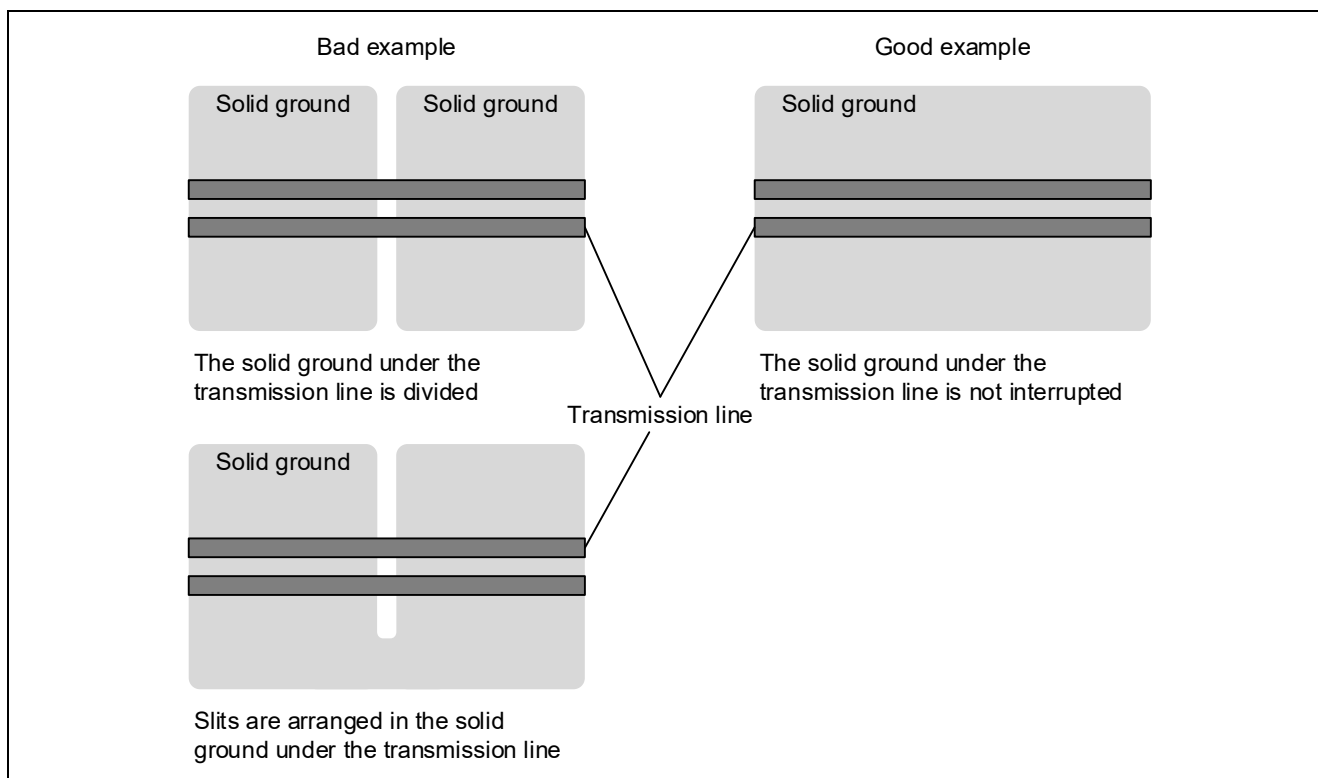

Figure 2.3 Example of solid ground on the lower layer of the transmission line
- The bottom layer of the transmission line should be a solid ground, and should not be divided by slits or the like. **Figure 2.3** shows an example of a solid ground under the transmission line.